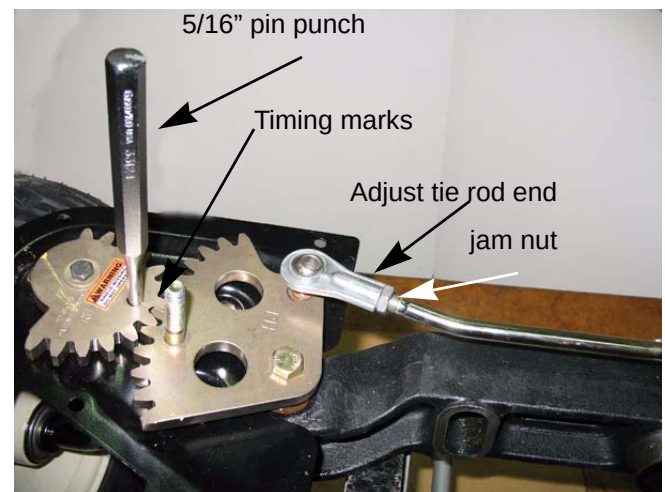

Figure 6.39
17. Insert a 5/16" pin punch in the alignment holes of the out board steering gears. Make sure they go all the way through into the pivot bar to lock the gears in position. See Figure 6.39.
18. Adjust the tie rod ends by loosening the jam nuts and rotating the tie rod ends until they slide on to the 1/4" bolts sticking up through the inboard steering gears. Tighten the jam nuts to lock the tie rod ends in place. See Figure 6.39.